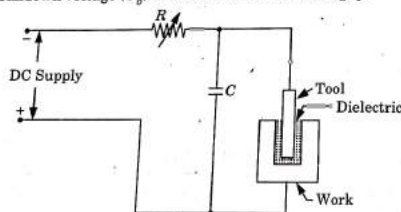

Fig. 5.11.1. Elementary relaxation circuit for EDM.
1. The relaxation or the R - C circuit was the first to be used in EDM. The circuit (Fig. 5.11.1) comprises a DC power source that charges a capacitor 'C' across a resistance 'R'.